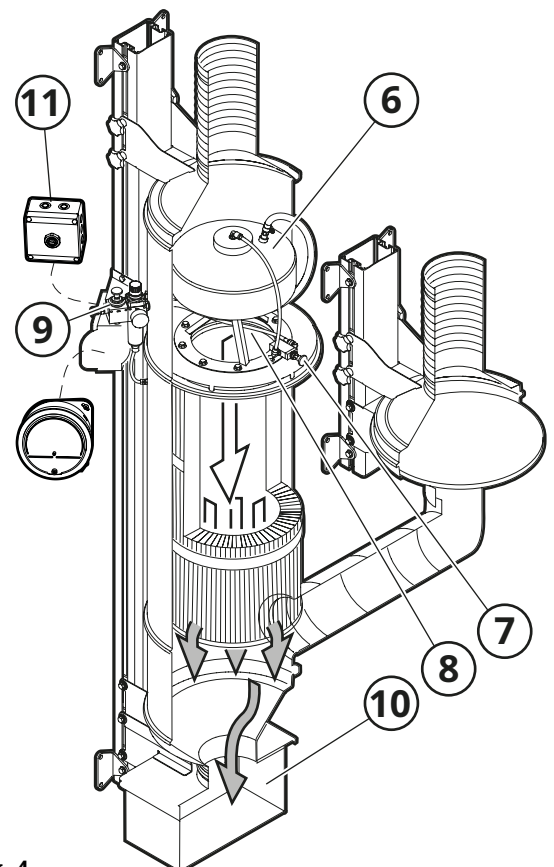

Fig. 4
Purging is carried out (6, **Fig. 4**) by manually pressing the compressed air purging button (7) so that a pulse of compressed air blows clean the filter of impurities. The pulse of compressed air comes from the blow nozzle (8). The strength of the pulse can be adjusted using the compressed air regulator (9).
An audible alarm (11, **Fig. 4**) signals when the air flow is less than 600 m³/h, indicating that the machine's suction capacity is insufficient.